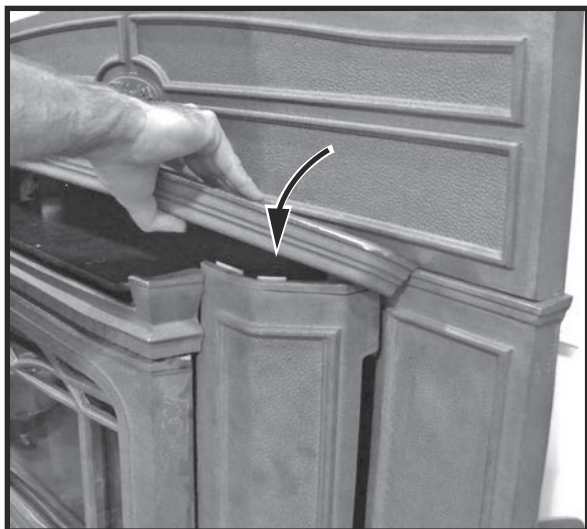

Figure 17: Decorative cover installation.
8. Install the cast decorative top by tilting it at a slight angle, sliding it under the surround top, and settling it over the fan shields (Figure 17).